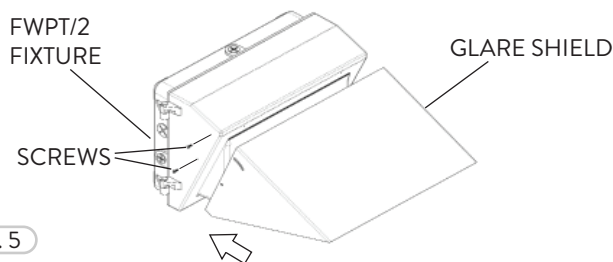

FIG. 5
- 1 The Optional Glare Shield minimizes the amount excess glare from the FWPT/2. The Glare Shield also restricts the amount of light pollution and light trespass. Align the Glare Shield to the sides of the FWPT/2 fixture holes (4). Fasten the Glare Shield to the fixture with the Screws (4) (Fig. 5).